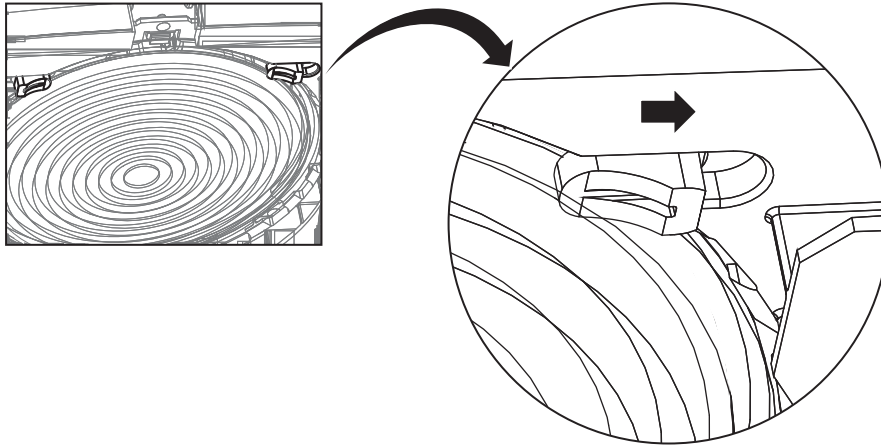

Figure-10 Lens retaining clip.
Step 4: Slide the plastic lens retaining clips on each side of the lens inward to secure the lens. Refer to Figure-10.